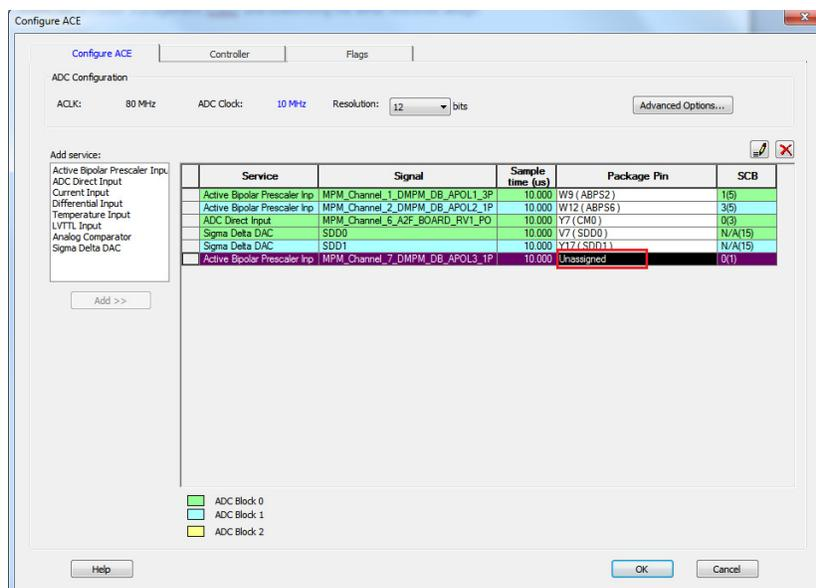

Figure 18 • ACE Configurator After Adding a Service
- Click **OK**. The ACE configurator looks like Figure 18. Assign the Package Pin value.